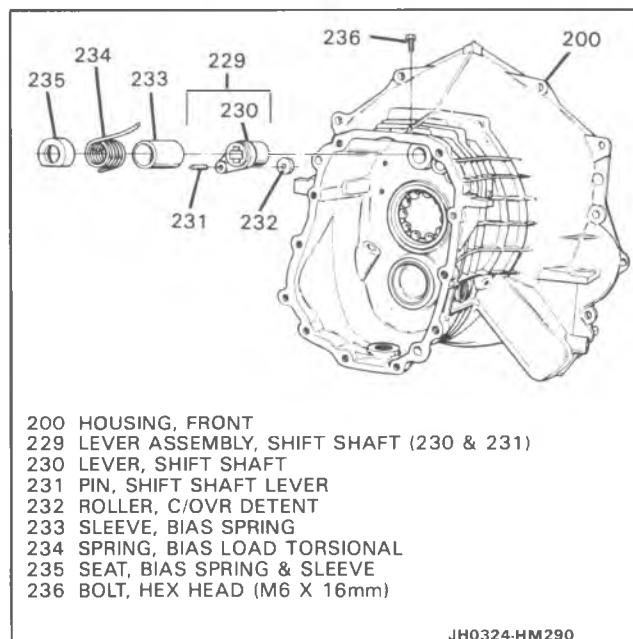

Figure 61 Bias Spring Components Install
- Bolt (204) to $8.5 \text{ N}\cdot\text{m}$ (7 Lb. Ft.).
10. Detent roller (232) on shift shaft lever assembly (229) and install into housing (Figure 61).
11. Bias spring sleeve (233), bias load torsional spring (234), bias spring and sleeve seat (235) and bolt (236).